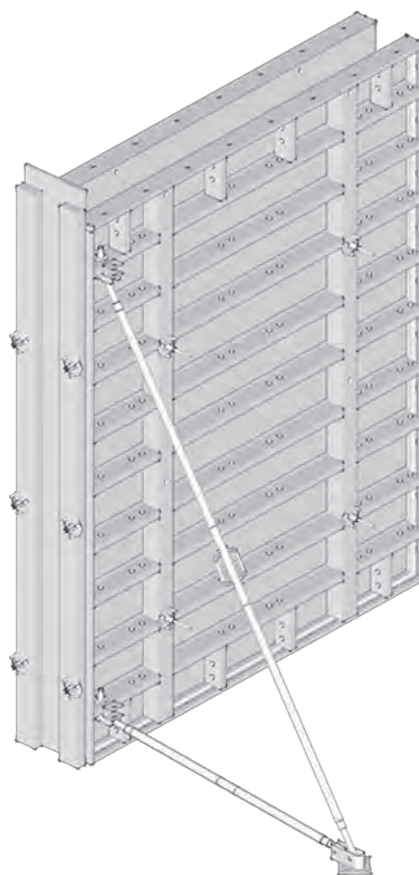

Fig. 2.7a
- using only centring bowstrings, plywood and timber (Fig. 2.7a),